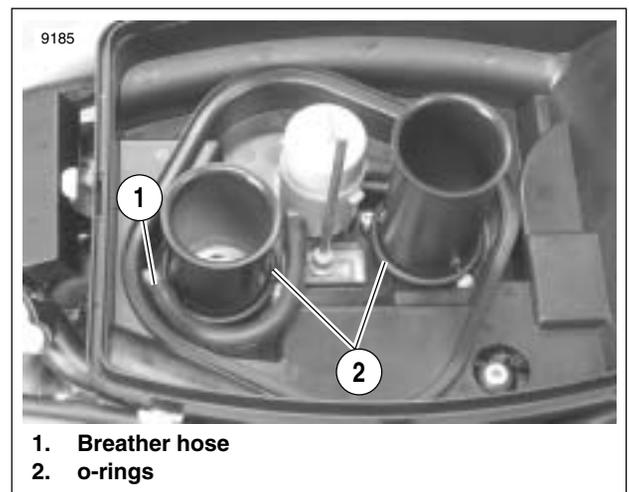

Figure 1-4. Velocity Stacks
5. See Figure 1-4. Disconnect breather hose (1). Slide o-ring (2) up the velocity stack body to access the three retaining fasteners. Remove the velocity stacks.